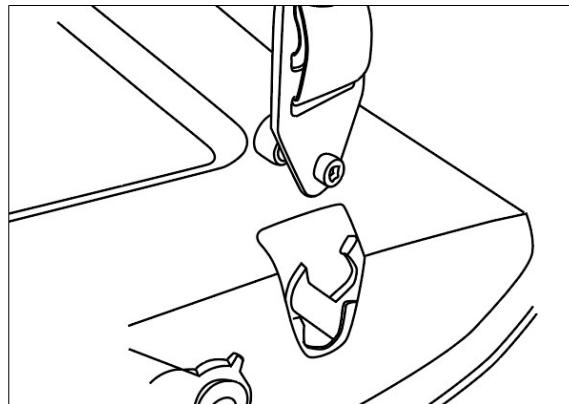

Fig. 2-2
- a. Adjust the strap length and position, to allow locking strap buckles to lock into the tailgate (Fig. 2-2). Listen for an audible “click” to ensure the buckle is properly inserted into the tailgate latch on both sides.